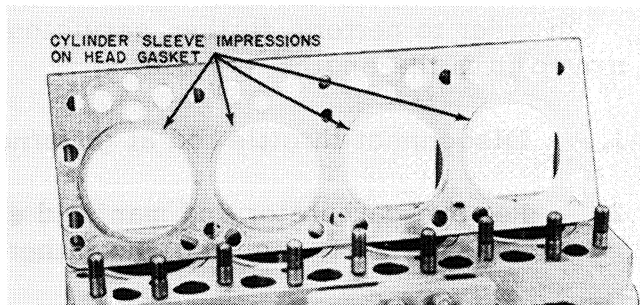

Figure 12 - Head Gasket Condition
6. Remove cylinder head gasket and note impression made by cylinder sleeves. When sleeves are in proper position and cylinder head stud nuts are properly tightened, a sharp impression will be made on the gasket as shown in Figure 12.